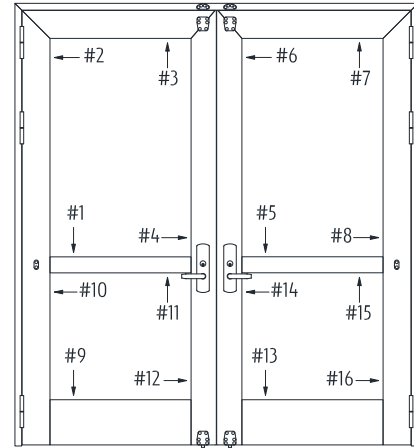

Figure 8 - Example of Glazing Bead Locations and Numbering Sequence
- (3) The beads are marked clockwise in an ascending numerical order around each opening as in the example below (Figure 8).